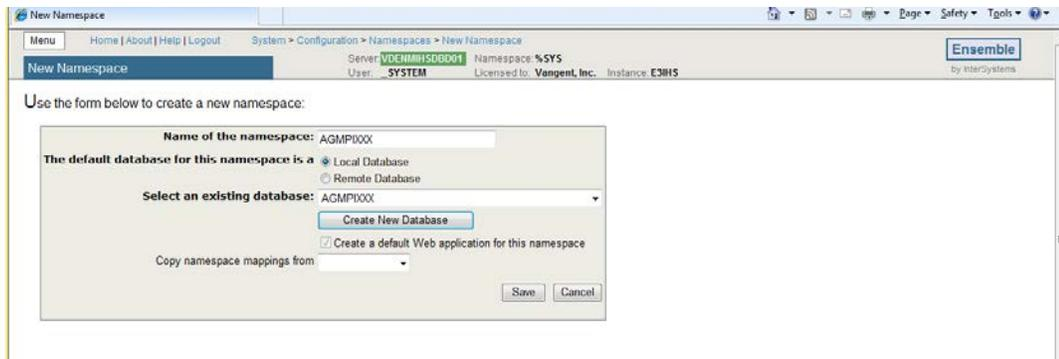

Figure 4-9: AGMPIxxx database
14. Click **Finish** to create the namespace database and open the **New Namespace** page, as shown in Figure 4-9.